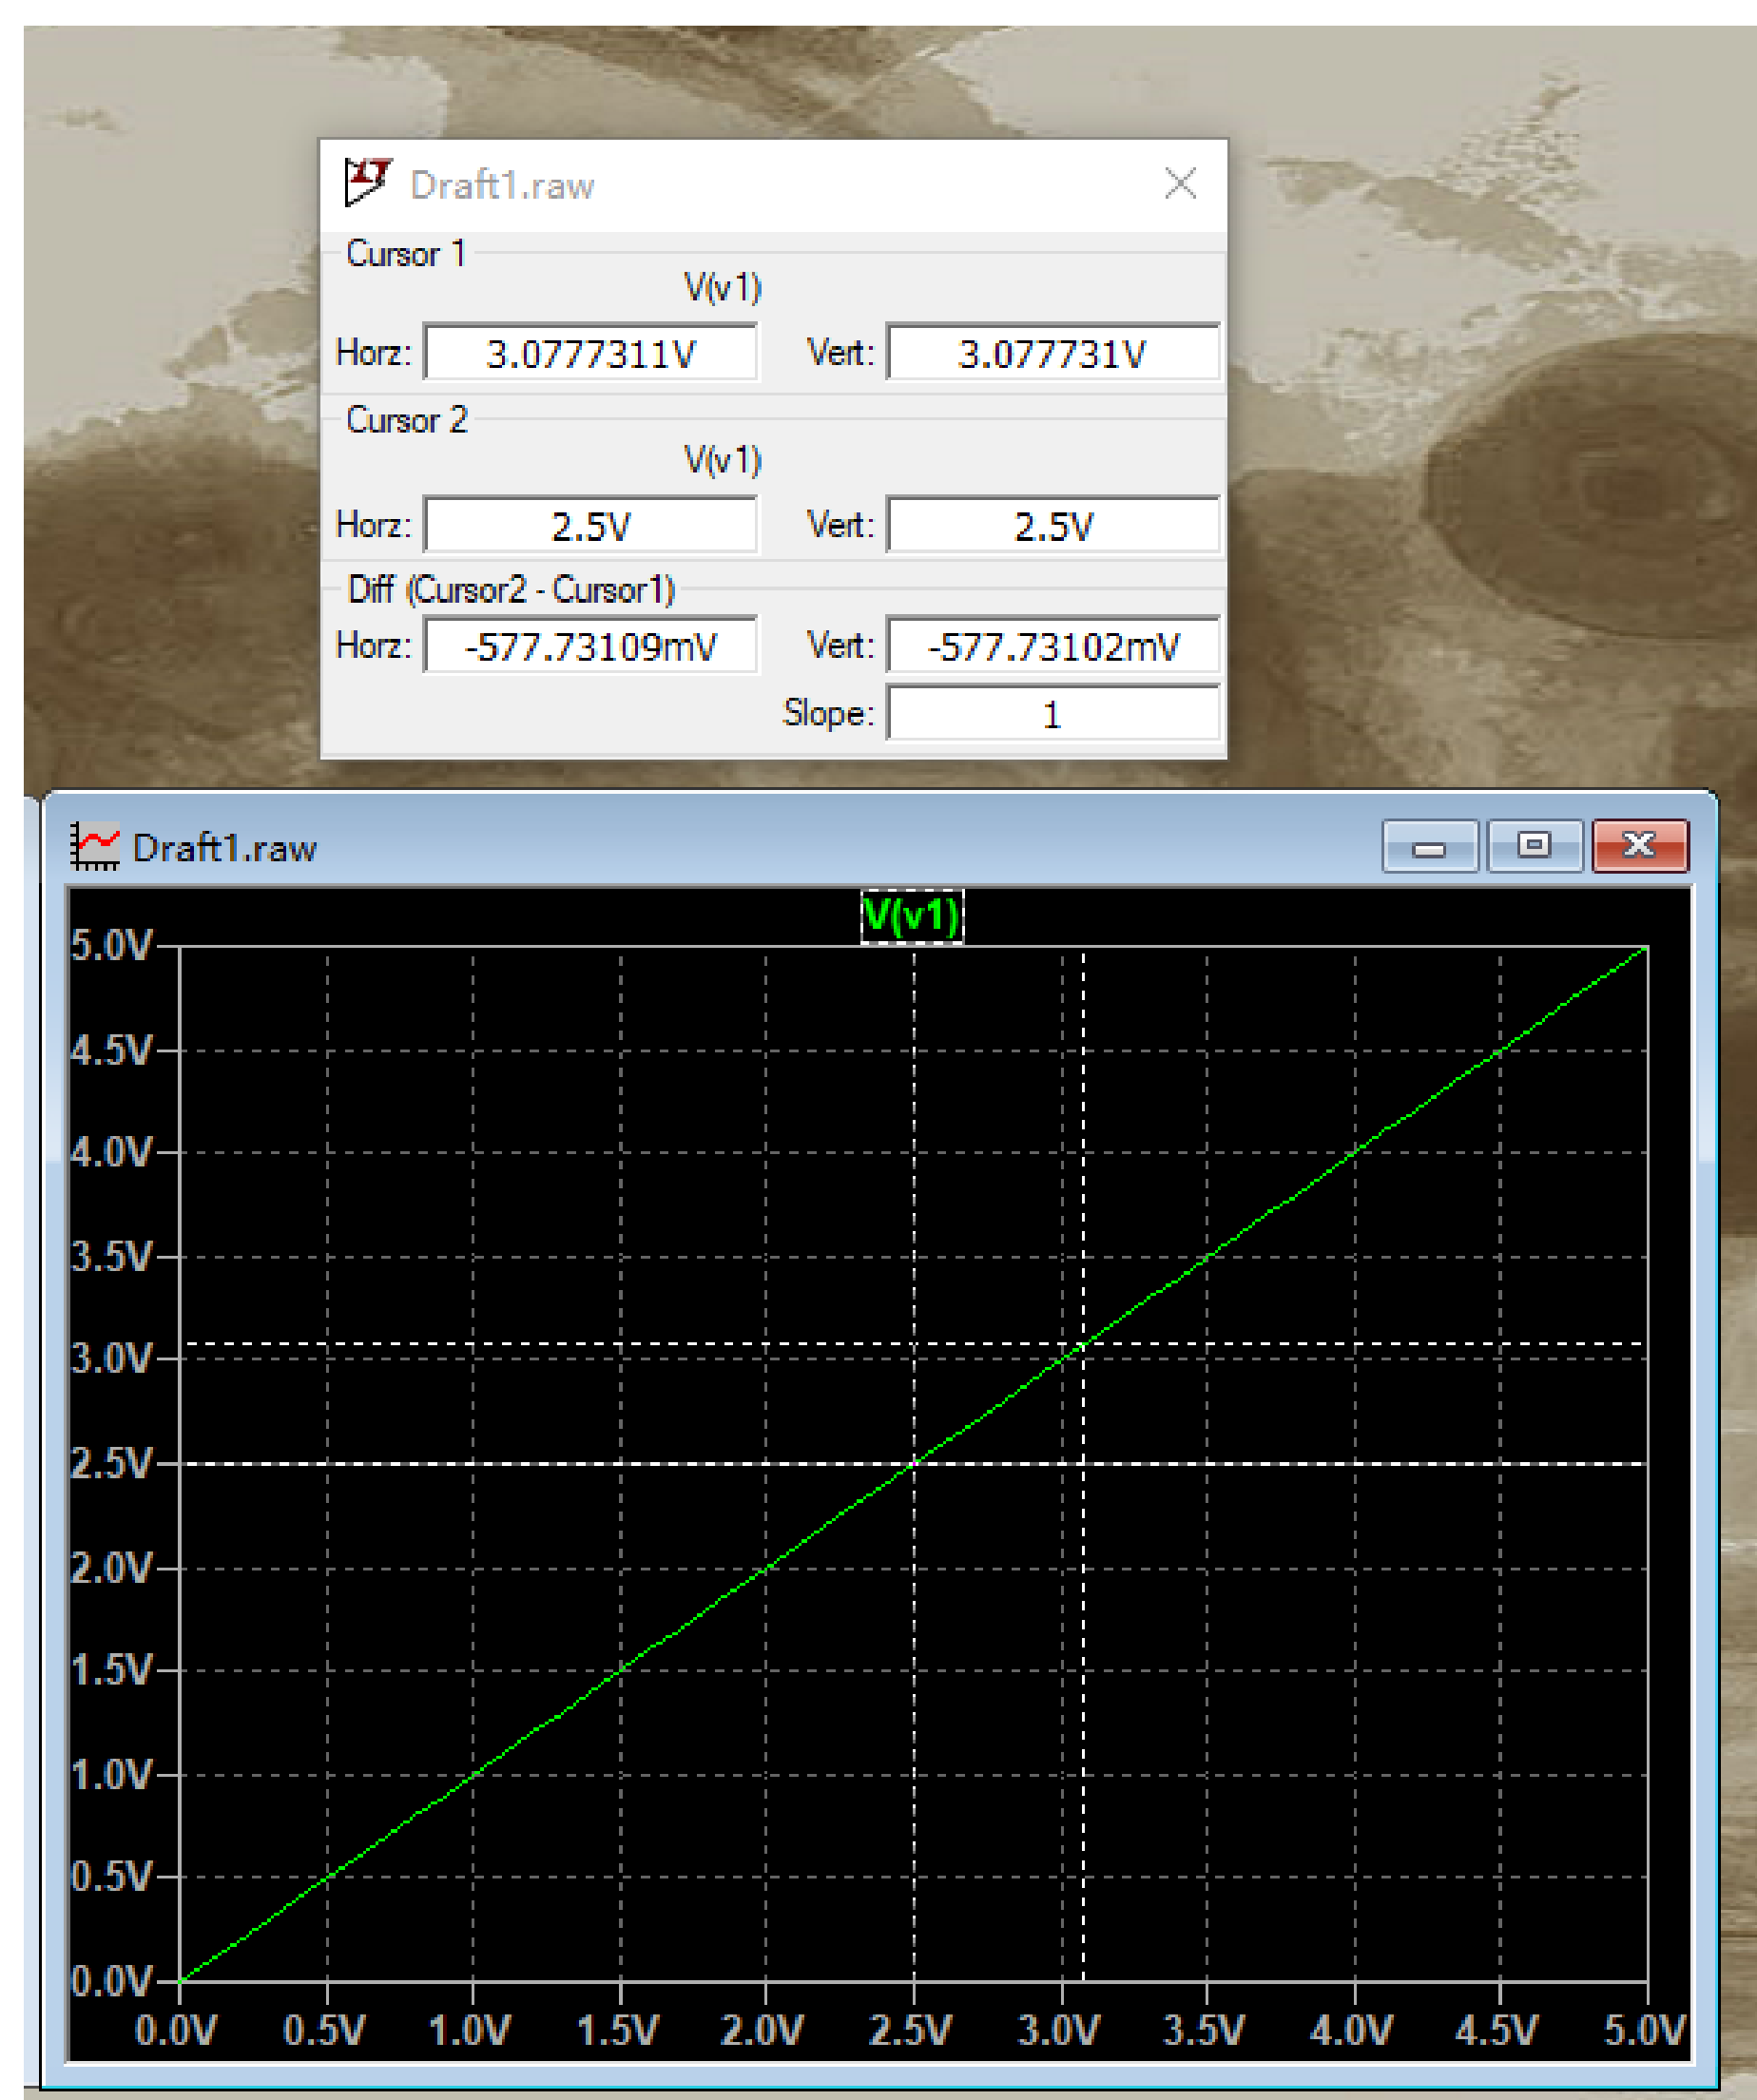

Figure 13: Curse example in a DC simulation.
- f) Use Cursor to read the specific value in the simulation figure. Add a cursor by left clicking on the trace name, above the plot. You can add two cursor measures (x_1, y_1) , (x_2, y_2) , and $(\Delta x, \Delta y)$. To move cursors, use left and right arrows, or click and drag. As show in Figure 13.